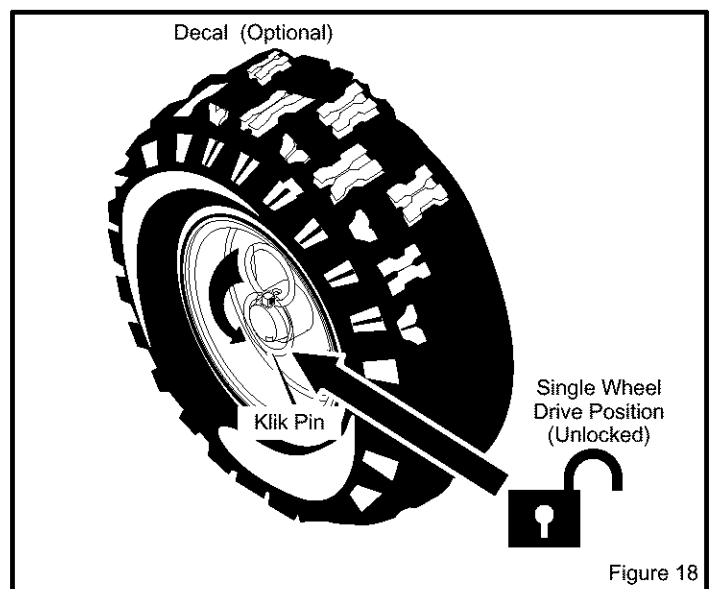

Figure 18
- For ease of maneuverability when lighter conditions prevail, remove klik pin from wheel locked position and insert into single wheel drive (unlocked) position (Figure 18). Make sure that the klik pin is in the single wheel drive position of the axle only and not through the locked position.